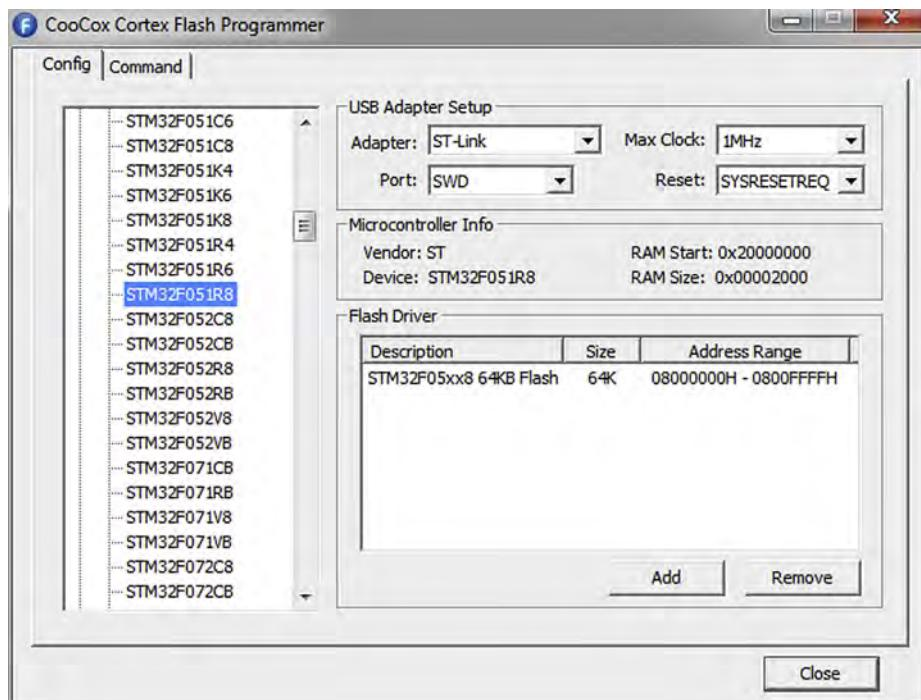

Figure 16.3
- When CoFlash is started, it first displays the Config tab. Set up the microcontroller device and debug adaptor as required. Figure 16.3 shows the configurations used with the STM32F0 Discovery board.